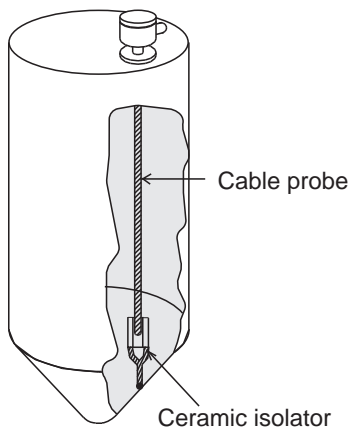

Fig. 3
4. The cable probe should be routed through the ceramic insulator and tightened with the fixing bolt, finally it should be routed through the silo and firmly attached to the cable nut. (fig. 3)